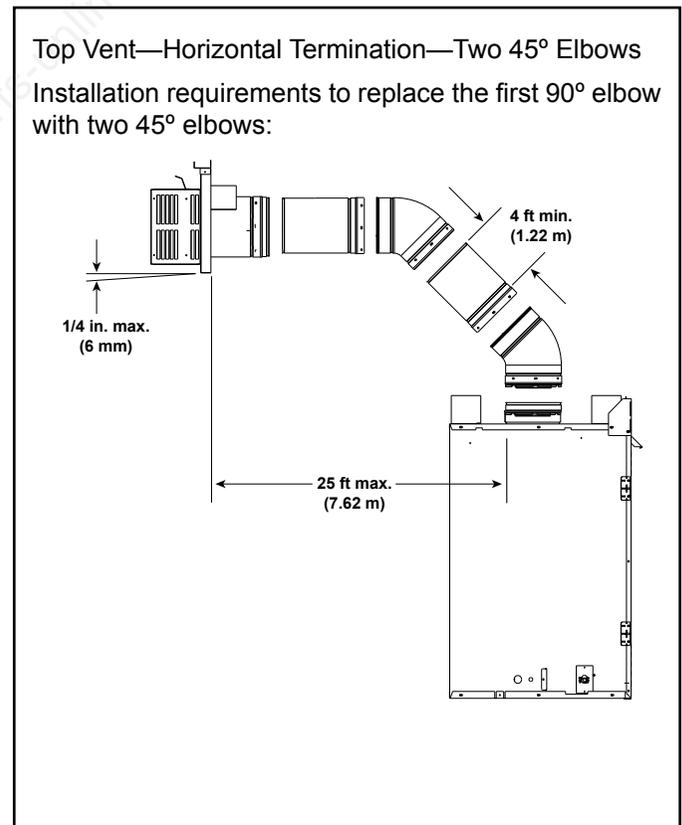

Figure 4.9
- Elbows may be placed back to back anywhere in the system as long as the first 90° elbow is a starter elbow except as shown in Figure 4.9.
- Horizontal termination cap should have a 1/4 inch downward slant to allow any moisture in cap to be released. See Figure 4.9.